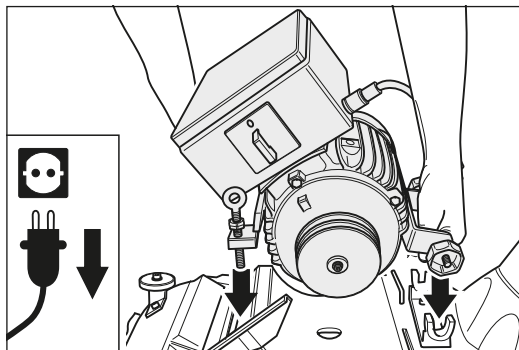
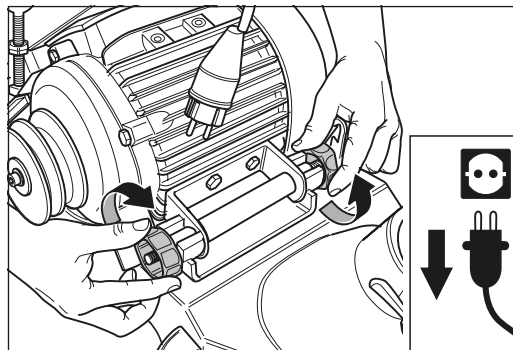

Fig. 63 Place the motor in the motor bearing bracket.
Fig. 64 Lightly tighten the two motor nuts and do **not tighten until** the V-belts have been fitted and tensioned.
- 5 Place the motor in the motor bearing bracket (fig. 63) and tighten the two motor nuts **slightly** (fig. 64).
- 7 Tighten the two motor nuts (fig. 64).